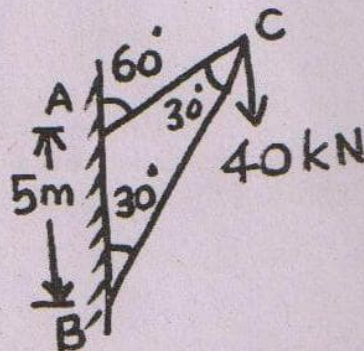

Fig. Q. 11(b)
- (b) A crane is shown in fig. Q. 11(b) the cross sectional area of the member AC is  $3000 \text{ mm}^2$  and that of member BC is  $7000 \text{ mm}^2$ . Determine the vertical deflection of the joint C. Take  $E = 2.0 \times 10^5 \text{ N/mm}^2$ . Use Williot diagram method.